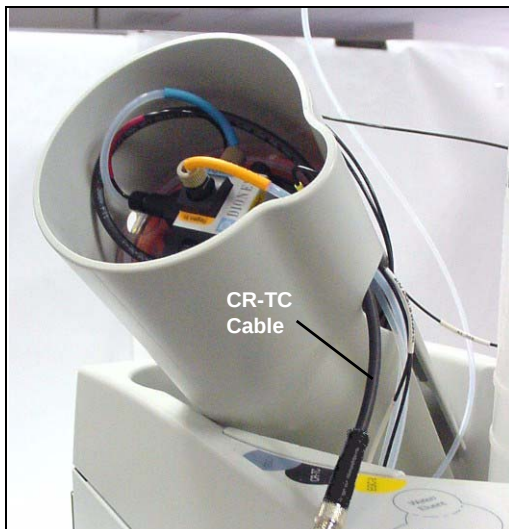

Figure B-36. Installing the CR-TC
6. Feed the CR-TC cable through the slot on the side of the EGC holder (see Figure B-36).